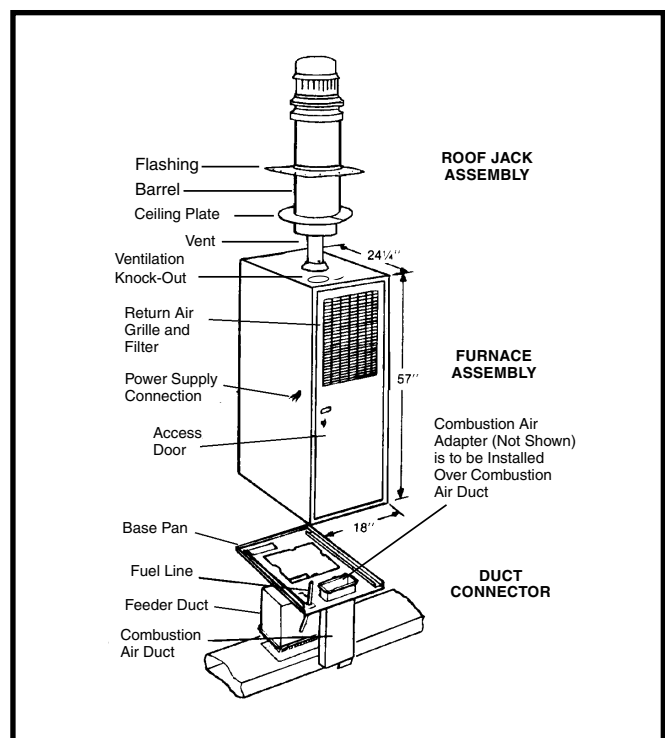
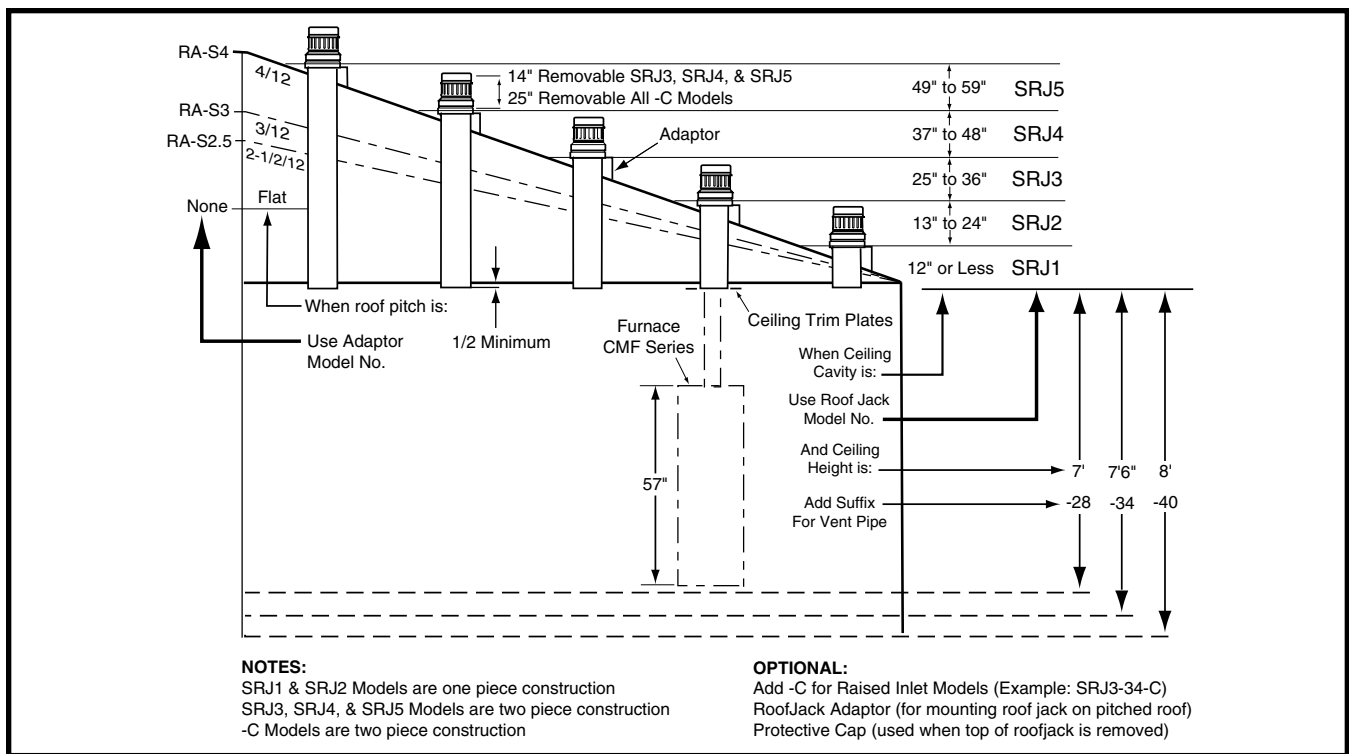

Figure 8. Typical Furnace Installation for Manufactured Housing Applications
Figure 9. Selection of Roof Jack & Accessories Chart
Required ceiling and roof cut-out openings must be accurately located to prevent hazardous misalignment of the furnace and roof jack. Figure 8 displays a typical installation for manufactured housing applications. Refer to Figure 9 (page 14) to determine appropriate SRJ roof jack and accessories required for your installation. Install only SRJ series roof jack as specified on the furnace label. **NOTE:** A roof jack adaptor is required for sloped roofs.
- The roof jack and vent pipe as determined from the chart in Figure 9 must be applied.